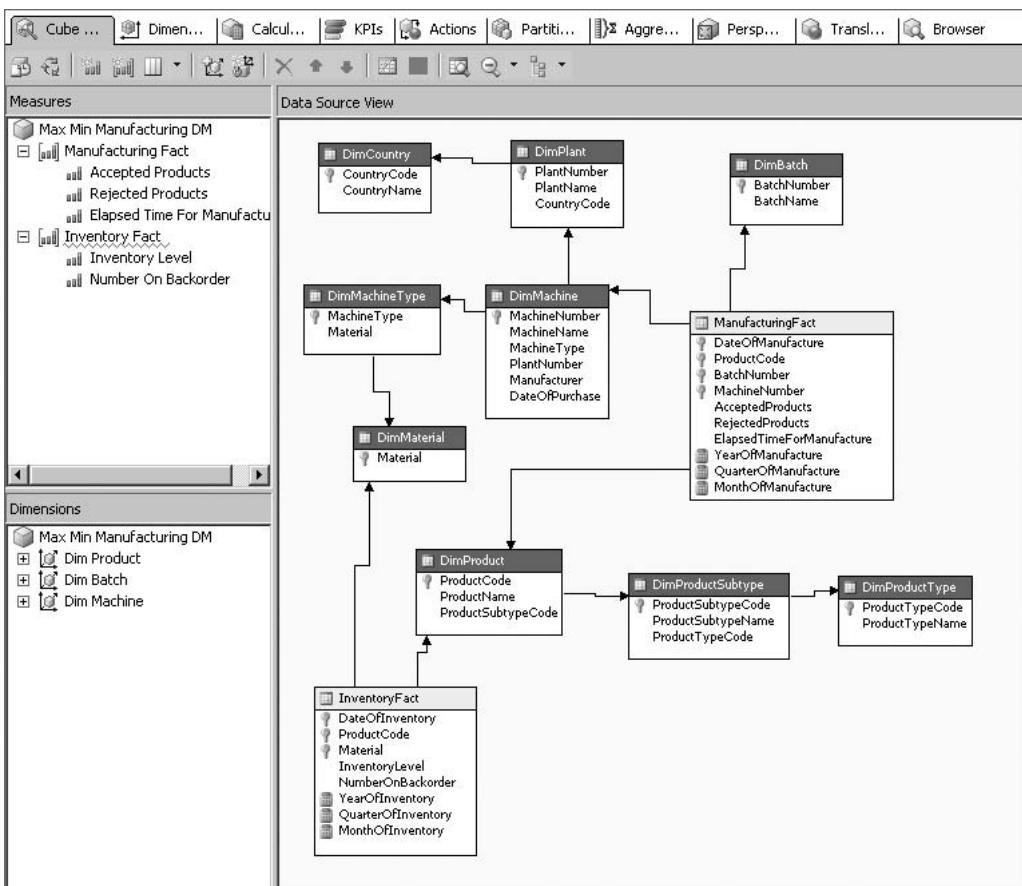

Figure 9-9 The Max Min Manufacturing DM cube with the Inventory Fact measure group
21. Click OK to confirm the deletion. The Cube Design tab should appear similar to Figure 9-9.